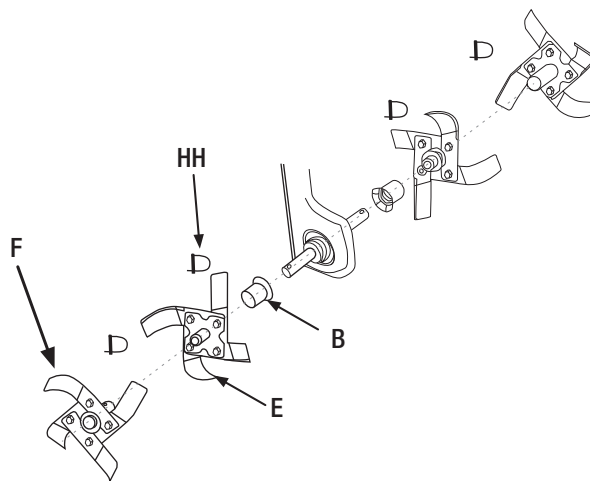

Figure 1-4
- Insert the dust covers (B), the tines (E), and the secondary tines (F), onto the drive shaft in sequence and lock tines with the D Pins (HH). Make sure the tines and the secondary tines are facing the correct direction as per the illustration below. See Figure 1-4.